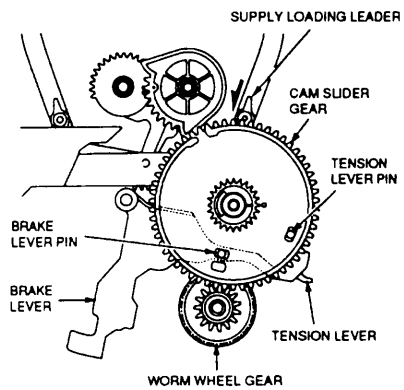

Fig 11.
- 1: Attach the WORM WHEEL GEAR as shown in Fig 11.
- 2: Place the CAM SLIDER GEAR on the shaft and adjust the position of the BRAKE LEVER and TENSION LEVER so that both pins appear through the holes on the CAM SLIDER GEAR as shown in Fig 11.